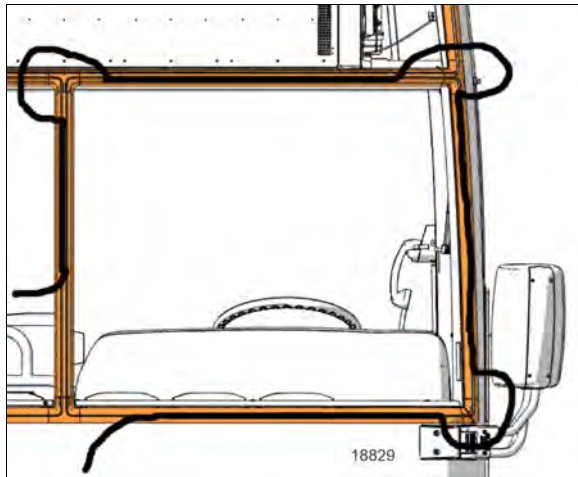

FIGURE 20: WINDSHIELD INSTALLATION USING ROPE
2. Insert rope into rubber extrusion leaving enough length at each corner to make a loop. Spray soapy water onto rope and rubber extrusion (Figure 20).